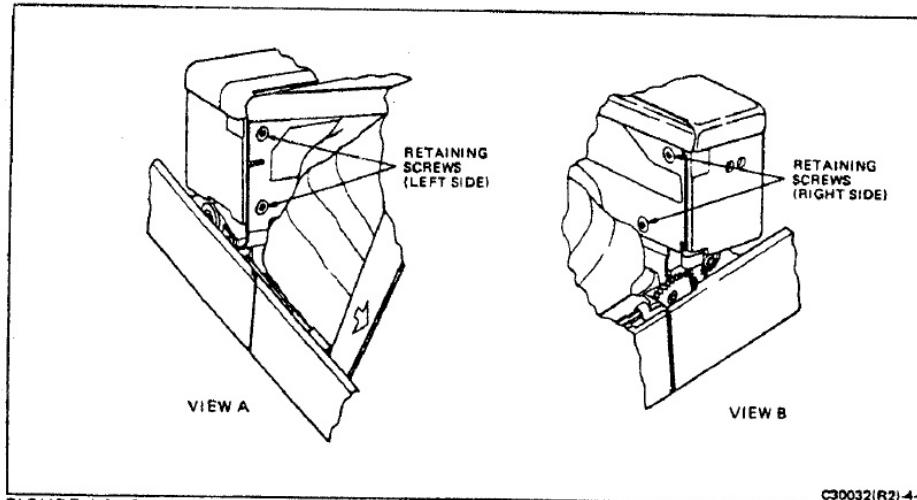

FIGURE 4-9 SHUTTER MOUNT RETAINING SCREWS
- Remove the four shutter housing retaining screws from the rear of the shutter mounting hinge bracket (see Figure 4-9). (Check for square head or Bristol head screw. Replace with same type.)